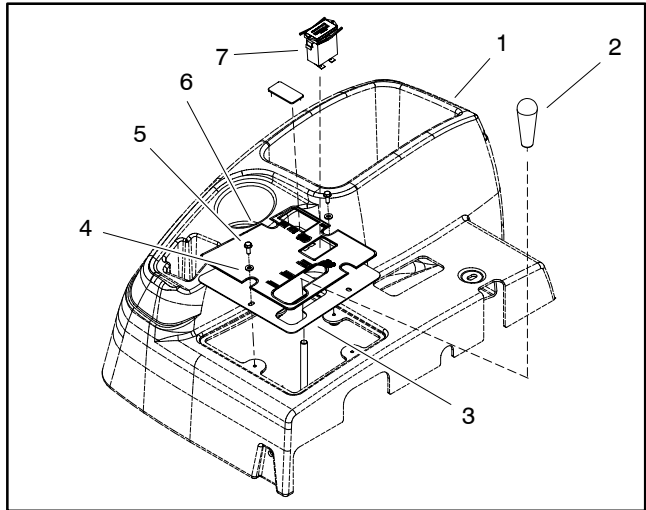

Figure 10
2. Remove four (4) screws and flat washers that secure control panel to console (Fig. 10). Lift control panel, unplug wire harness connector from hour meter and remove control panel from machine.
7. Connect wire harness connector to hour meter and position control panel to console. Secure control panel with four (4) screws and flat washers (Fig. 10).